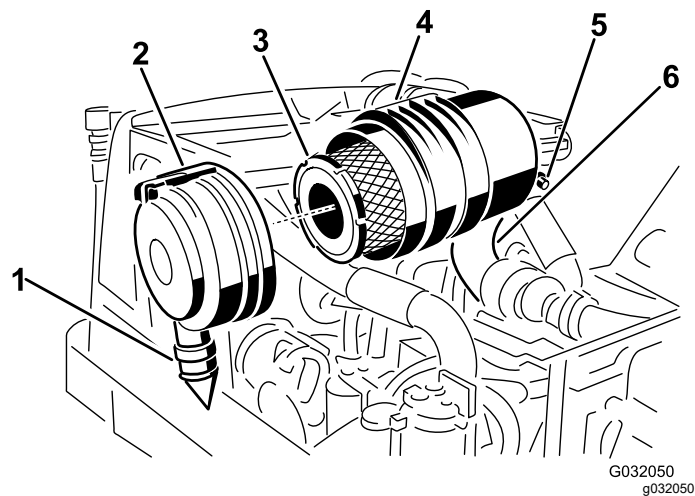

Figure 46
2. Remove the primary filter (Figure 46).
3. Replace the primary filter (Figure 46).
7. Install the cover, orienting the rubber outlet valve in a downward position between the 5 o'clock to 7 o'clock positions when viewed from the end, and secure the latch (Figure 46).